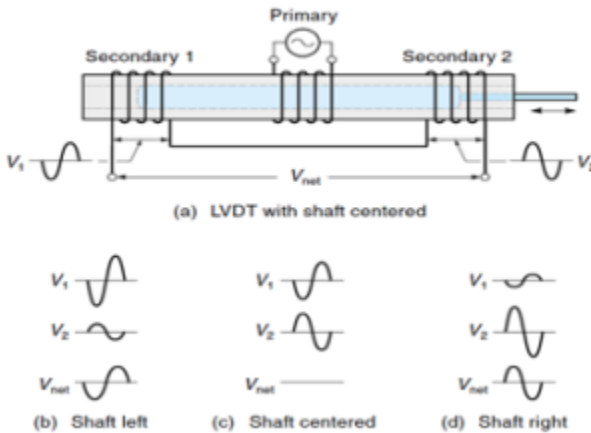

Figure 1: Linear Variable Differential Transformer
*How it Works:* As the core moves within the transformer, it induces voltages in the coils. The resulting signals are then processed to determine the displacement of the core. LVDTs are known for their accuracy, reliability, and ability to operate in harsh environments. Figure. 1 shows that if the iron core is exactly in the center, the voltages induced on the secondaries by the primary will be equal and when the core is moved a little to the right. In that case there is more coupling to secondary 2, so its voltage is higher, while secondary 1 is lower.